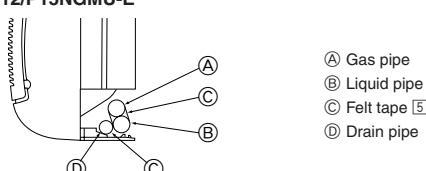

Fig. 5-5
■ PKFY-P12/P15NGMU-E (Fig. 5-5)